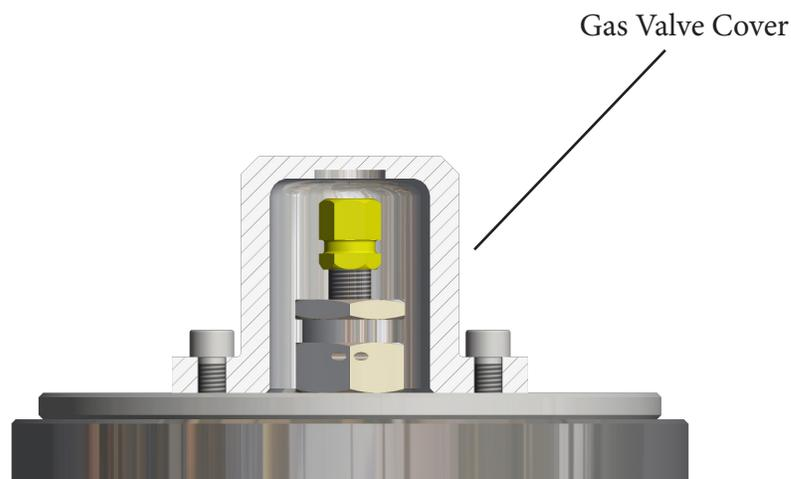

Figure 1 - Gas Valve Cover
1. Remove the gas valve cover from the end-cap (See Figure 1). Not all units are supplied with this cover.